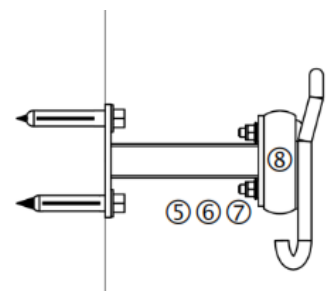

Figure 11: Side view
Repeat this process according to the length of your hook rail ⑧. The spacers should be no more than 1.50 m apart horizontally. Once all of the spacers are mounted onto the wall, hold the hook rail against them and mark the holes on the rail. Drill the holes into the rail using a wood drill (8-mm-diameter bit). Then attach the hook rail to the spacers using the coach bolts ⑤, washers ⑥ and hexagon nuts ⑦ (see figure 11). Make sure the coach bolt ⑤ is mounted in the same direction as the hex-head screw ②.